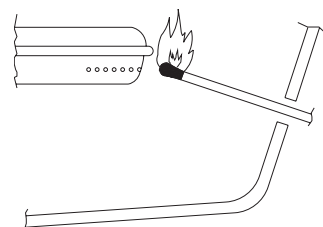

Figure 15
6. If a burner does not light, turn OFF all gas and refer to the Troubleshooting section of this manual. Figure 15.